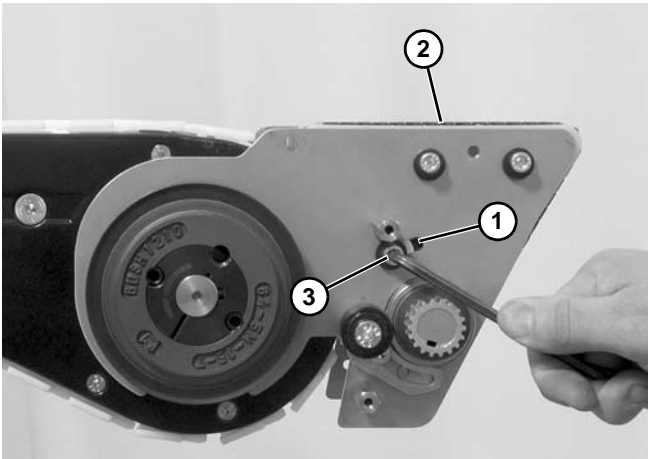

Figure 161
9. Slide idler assembly within slot (**Figure 161, item 1**) only enough to remove excess slack from belt (**Figure 161, item 2**). Tighten socket head screws (**Figure 161, item 3**).